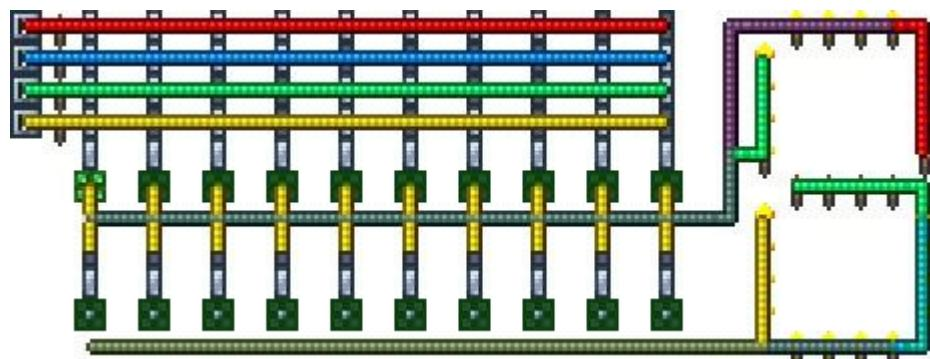

Figure 2.39
8. Complement the decimal number to show the wiring of Figure 2.39.